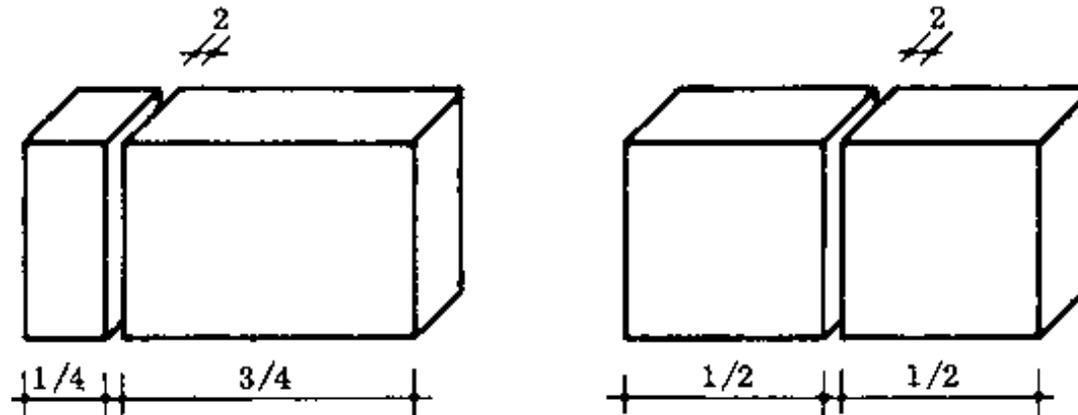

Fig. 5 1/4 - 1/2 - 3/4 BLOCKS
**- 3/4 - 1/2 - 1/4 - BLOCKS:** These are parts of blocks obtained by cutting a block through either the centre line or the quarter line, less half the thickness of the joint (Fig. 5). The cut is made along the width, not along the length. A special block gauge may be used for marking off the different sizes.